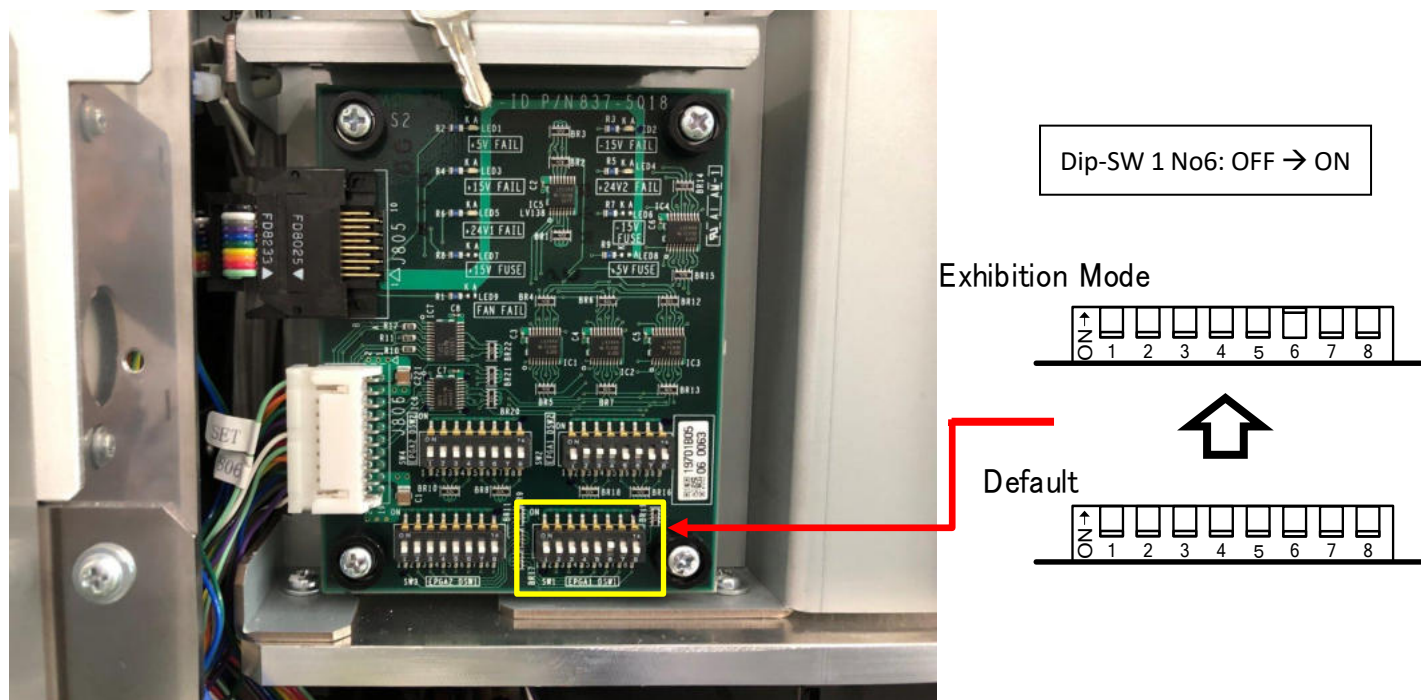

Figure 4 Dip-SW1 setting for e 402
- (1) Change the Dip-SW1 to ON (Figure 4) of SET-ID board.